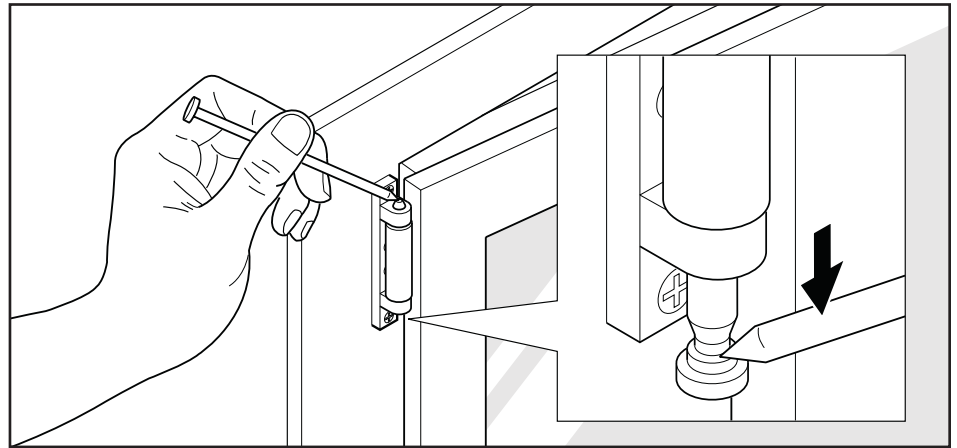

Figure 2-11. Where to put the support shims and jamb shims
2. Shim frame with shims (See fig. 2-11). Adjust the height of the shims to obtain a level sill, top and sides, ensuring you have 3/8” - 1/2” gap at the head and sides, and at least 3/4” at the bottom to make sure enough slope for exterior finish provided. (if window is installed 3/4” outside, space between bottom of the frame and wall is 1/2”) . Check frame one more time to make sure it is plumbed and square